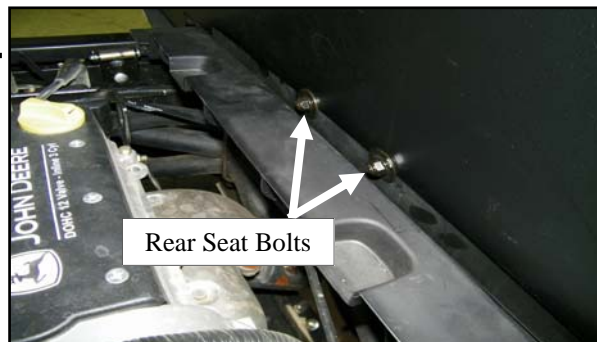

Fig. 1.2 (view from rear of passenger's side)
1.2 Per fig. 1.2, remove and save (2) rear seat back bolts behind the rear center seat.
1.6 Per fig. 1.2, reinstall the two rear seat back bolts removed in step 1.2.